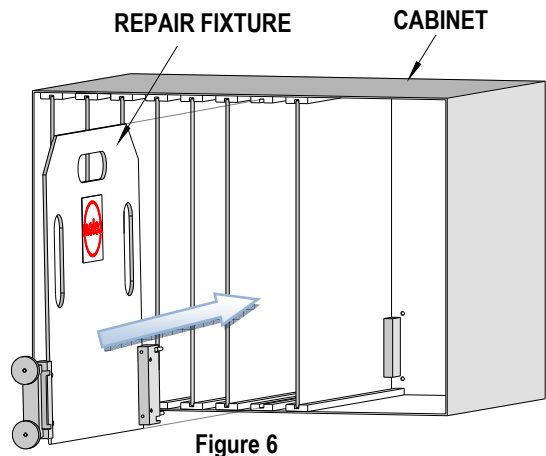

Figure 6
6. Slide the fixture forward until the threaded rods protrude through the holes in the back of the backplane. See Figure 6.